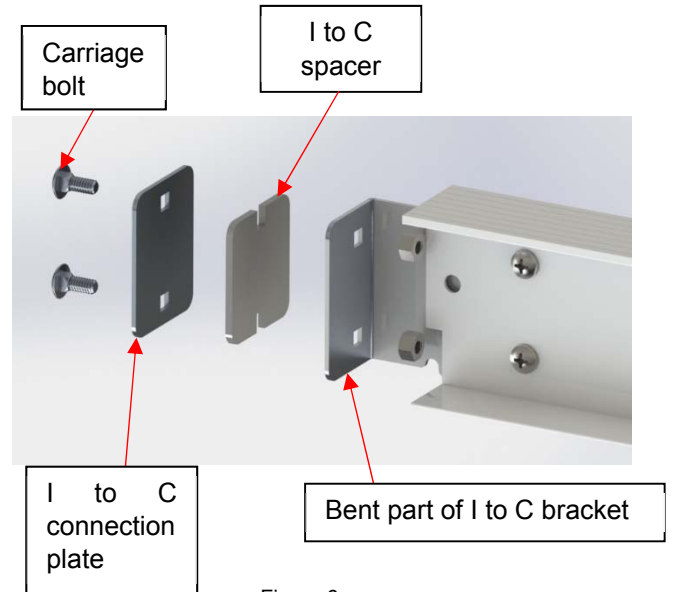

Figure 6
- 4) For models ranging from **12' to 15'**, you will need to install **one** I-beam with **two short** I to C connection plates per I-beam. (Figure 6)
- ◆ Use 1/4-20 x 5/8" carriage bolts, 1/4-20 nuts and 7/16" (11 mm) socket wrench and spanner. Insert the I to C spacer in between the I to C connection plate and the bracket. The carriage bolts and nuts can now be properly tightened. (Figure 6).
- 5) For models ranging from **16' to 20'** you will need to install **three** I-beams with **two short** I to C connection plates per I-beam (Figure 6).